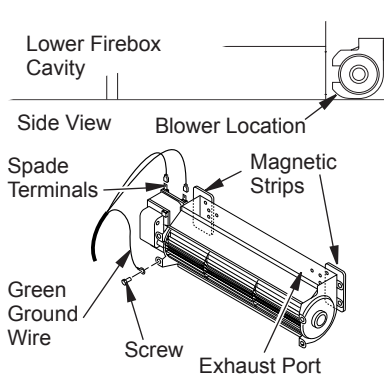

Figure 35 - Blower Model BK
1. Attach power cord to blower motor by firmly pushing the two female terminals at the end of power cord onto the two spade terminals on blower motor (see Figure 35, page 22).
2. Attach green ground wire from power cord to blower housing using screw provided (see Figure 35). Tighten screws securely.
3. Place blower against lower rear wall of the firebox outer wrapper with exhaust port directed upward. The blower will fit inside the back opening and be held in position against the back wall by magnets (see Figure 35).